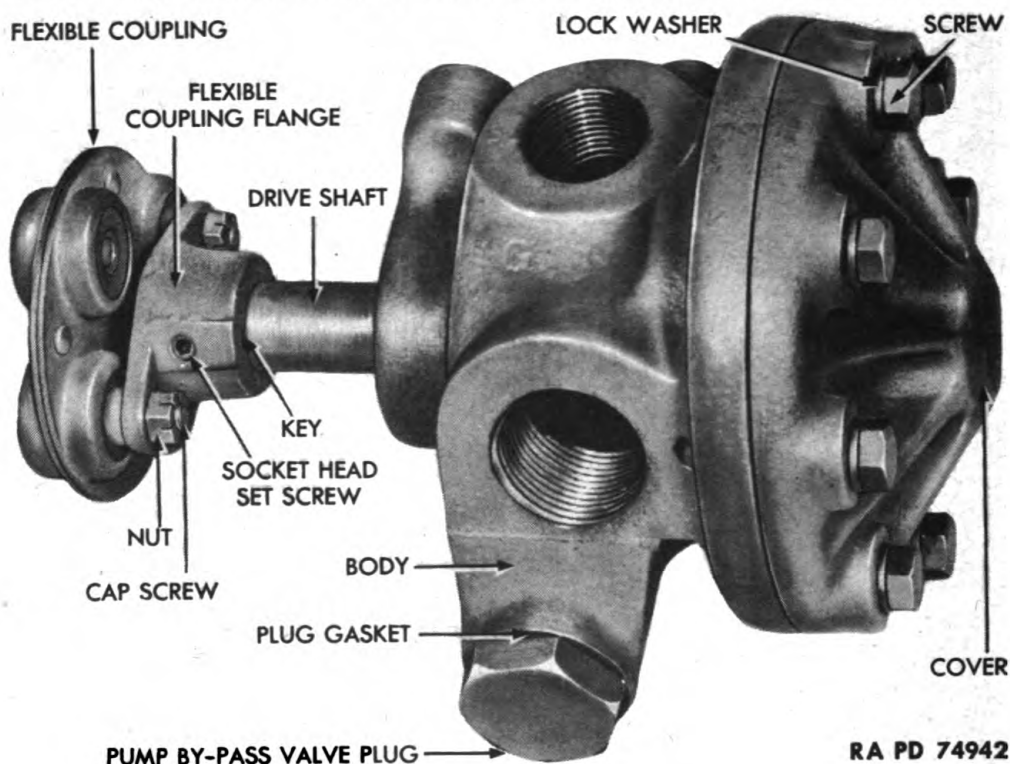

Figure 3 — Hydraulic Pump
a. **Description** (fig. 3). The hydraulic pump is a rotor type pump mounted on the left side of the engine. The hydraulic pump housing has a cover secured by cap screws and contains the rotor mechanism and the by-pass valve. The pump drive shaft, which is driven by the engine, has the inner rotor secured to it by a key. This inner rotor has six lugs which revolve in seven grooves of the outer rotor. The outer rotor operates in a bushing contained in the housing. The by-pass valve is spring-loaded and is retained in the housing by a by-pass valve plug.
a. **Remove Coupling** (fig. 3). Unscrew elbow (pump to reservoir) from hydraulic pump body. Remove two cap screws and nuts which hold flexible coupling to flexible coupling flange, and remove
b. **Remove Cover and By-pass Valve** (figs. 3 and 4). Remove eight screws and lock washers which hold hydraulic pump cover to hydraulic pump body, and lift cover and gasket off body. Remove pump to steering gear pipe fitting from hydraulic pump body, then remove pump by-pass valve plug and plug gasket. Remove pump by-pass valve spring, plunger, and by-pass valve from hydraulic pump body (fig. 5).